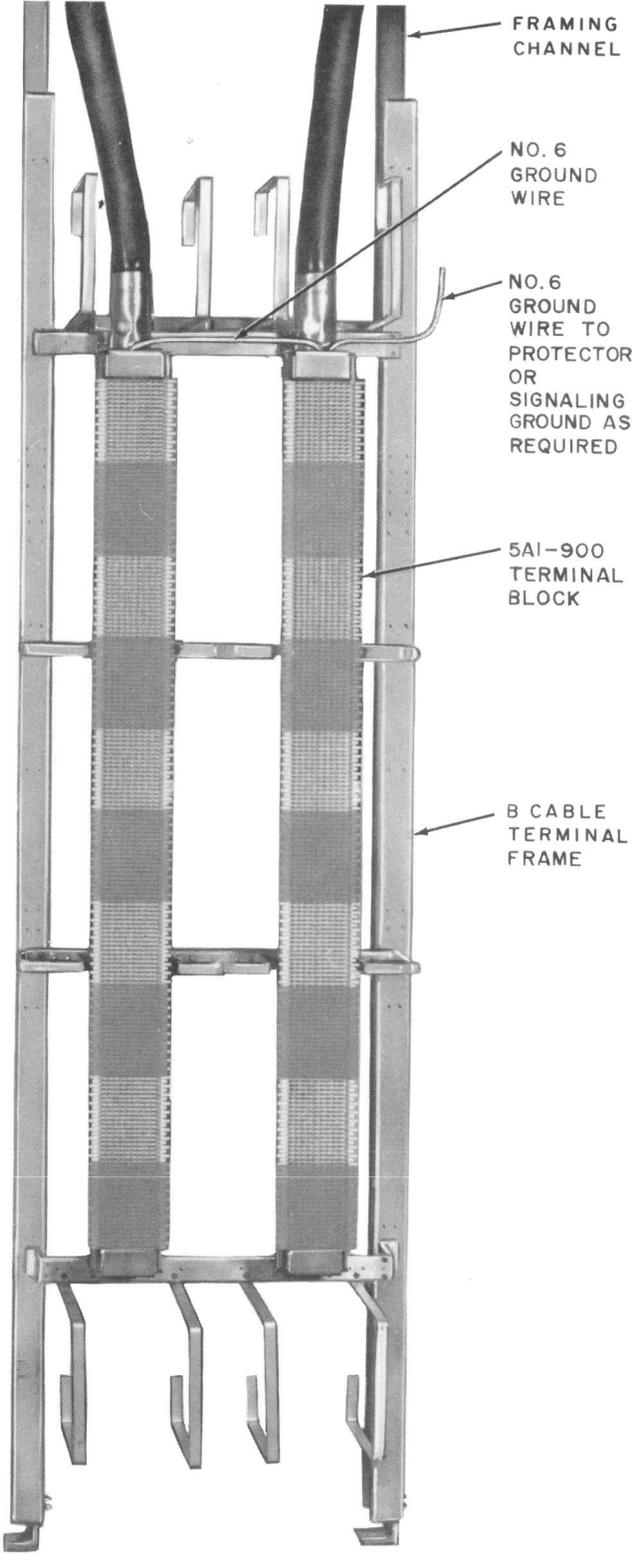

Fig. 5—5A1-900 Terminal Block Mounted on B Cable Terminal Rack
3.02 Mount 5A-type terminal blocks on a B cable terminal frame as shown in Fig. 5. For additional information, see Section 631-400-105.♦